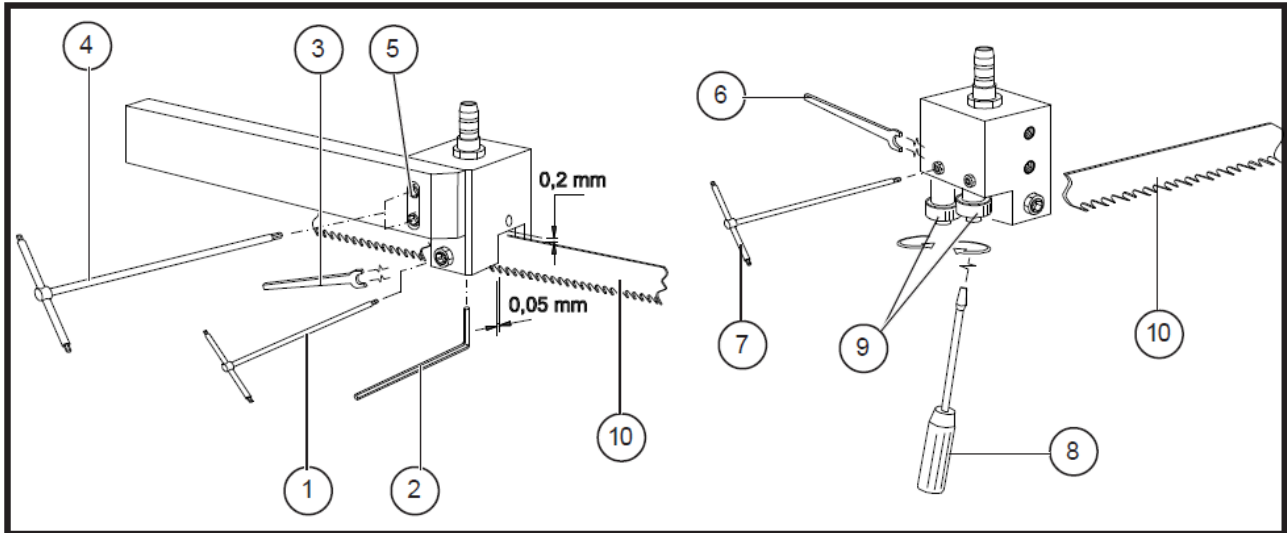

Fig. 6-11
The blade runs through a set of carbide pads which are adjusted by the manufacturer according to the thickness of the blade as shown on fig. 6-11.
- b) First adjust the mobile blade-guide pad (1 fig. 6-11) use the key 2 and leave a gap 0.05 mm between the pad and the blade.
- c) Once so adjusted, tight the screw (2 fig. 6-11) with the key 1 and the nut (3 fig. 6-11) with the key 3.
- d) With the key 4, adjust the blade-guide block (4 fig. 6-11) leaving a gap of 0.2 mm between the back of the blade and the top part of the stationary pad.
- e) Once so adjusted, tight the screws (5 fig. 6-11) with the key 4 making sure that the block stands perpendicular with respect to the blade.
- f) With the keys 7 and 6 release the screws (6 fig. 6-11) as shown on the drawing and using a screwdriver 5 rotate the pins (7 fig. 6-11) till the bearings (8 fig. 6-11) rest against the blade.